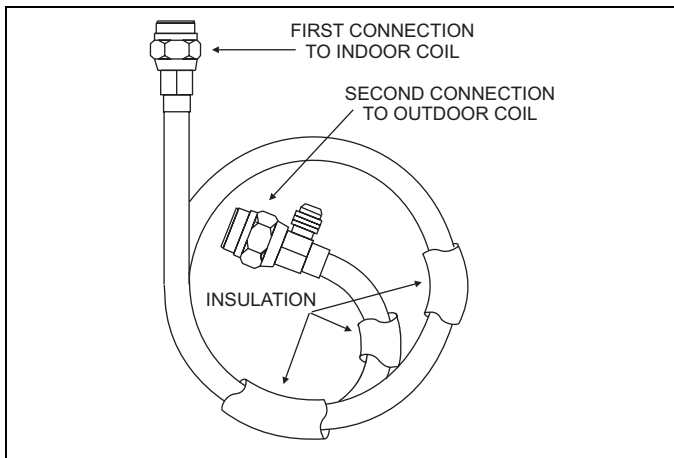

FIGURE 5: Typical Quick Connect Refrigerant Line Set
7. Install refrigerant lines to indoor coil first. (The couplings without Schrader Valves are to be connected to the indoor coil. See Figure 5).